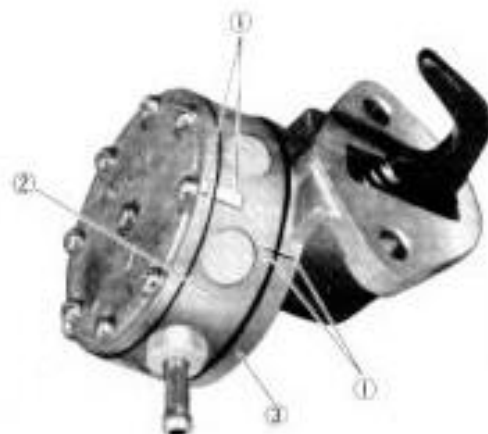

Fig. 5-8
Scribe match marks ① across the joint seams to establish and identify the angular positions of upper half ② and lower half ③, as shown in Fig. 5-8. This provision is necessary because the screw holes are so located as to permit the two halves to be angularly positioned in more than one way, whereas the pump can be piped only when the pump is assembled as shown.